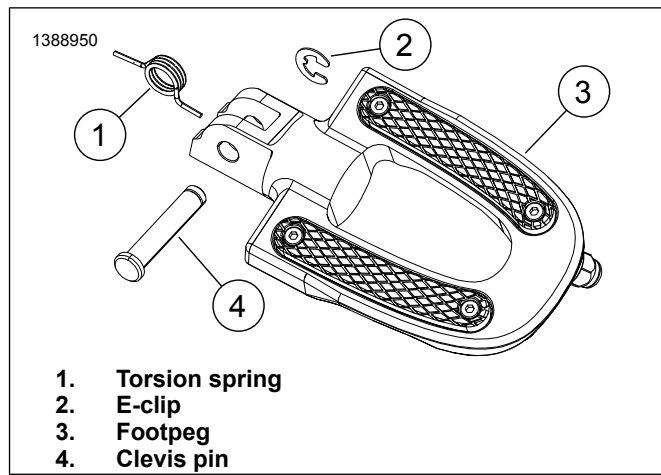

Figure 2. Rider Footpeg Torsion Spring Installation
1. **Softtail models:** See Figure 2. Remove pin (4) and E-clip (2). Retain for later use.
1. See Figure 2. Insert short leg of torsion spring (1) into hole in **new** footpeg (3).